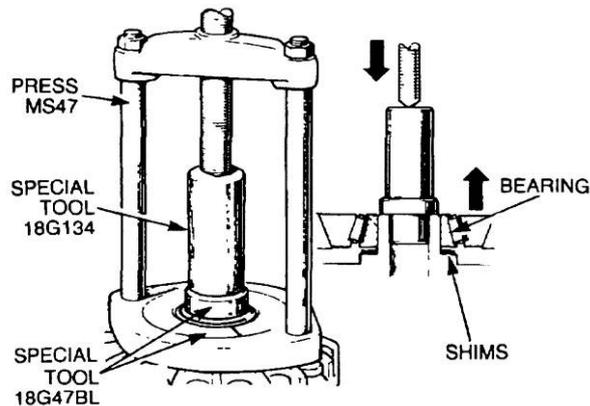

Figure 234 Removal of the Differential Bearing
- d. Using special tools 18G134, 18G47BL, press MS47 and adapters 1 and 2, remove the differential bearing cones and shims (Figure 234).